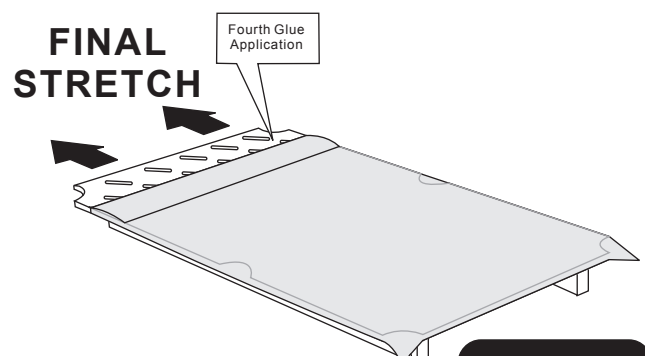

Figure 13
9. Fold cloth away from other end to expose Play Bed for your fourth glue application. (See **FIGURE 13**) Apply cement to this end in the same manner. Allow cement to become tacky, wait at least one minute.